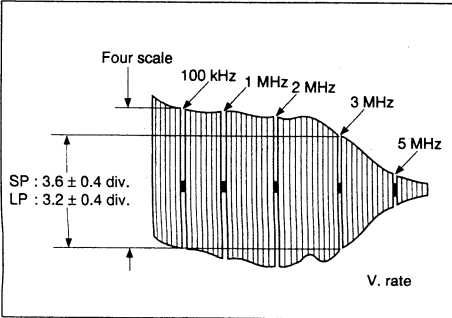

Fig. 3-3-7 S-VHS VIDEO EQ
- (1) Connect an oscilloscope to Y OUT TERMINAL and TP111 (negative slope).
- (2) Record a video sweep signal in the S-VHS SP mode, then play it back.
- (3) Set the EVR mode by pressing the "K" button of the pre-setting unit.
- (4) Set "A : 3" by pressing 3 button of the remote controller.
- (5) When assuming the 100 KHz sweep signal marker on the bigger channel is four scales on the oscilloscope, adjust the CH "+" or "-" buttons on the front panel or the Digit-key remote controller so that the 3 MHz is set at 3.6 ± 0.4 scale (-1 ± 1.0 dB) while observing Y OUT of the S output. (See Fig. 3-3-7.)
- (6) Set the normal VCR mode by pressing the "K" button of the pre-setting unit again so adjustment data is memorized.
- (7) Carry out the step (3) and (4) in the S-VHS LP mode.
- (8) When assuming the 100 kHz sweep signal marker on the bigger channel is four scales on the oscilloscope, adjust the CH "+" or "-" buttons on the front panel or the Digit-key remote controller so that the 3 MHz is set at 3.2 ± 0.4 scale (-2 ± 1.0 dB) while observing Y OUT of the S output. (See Fig. 3-3-7.)